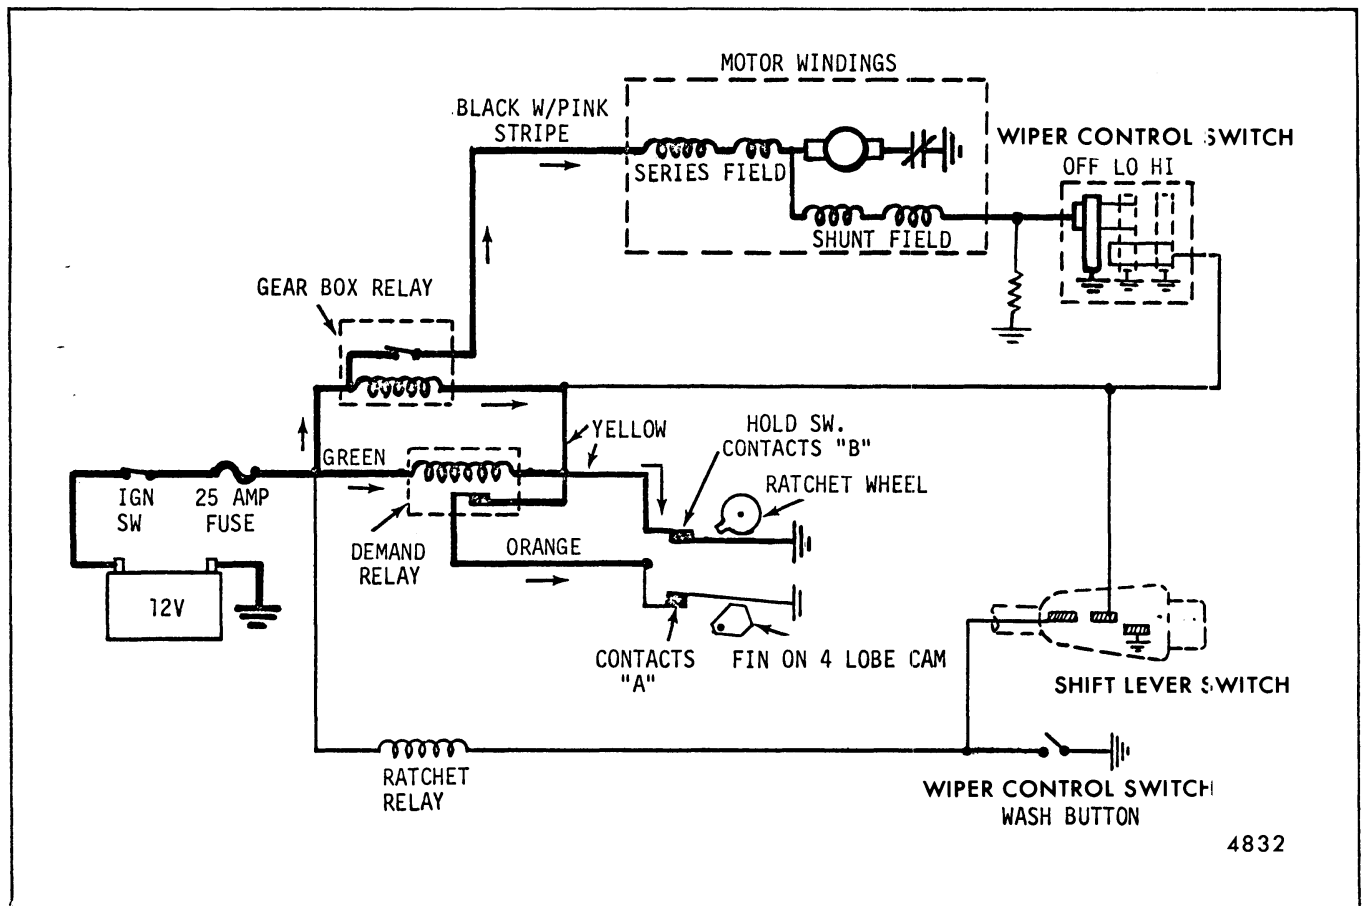
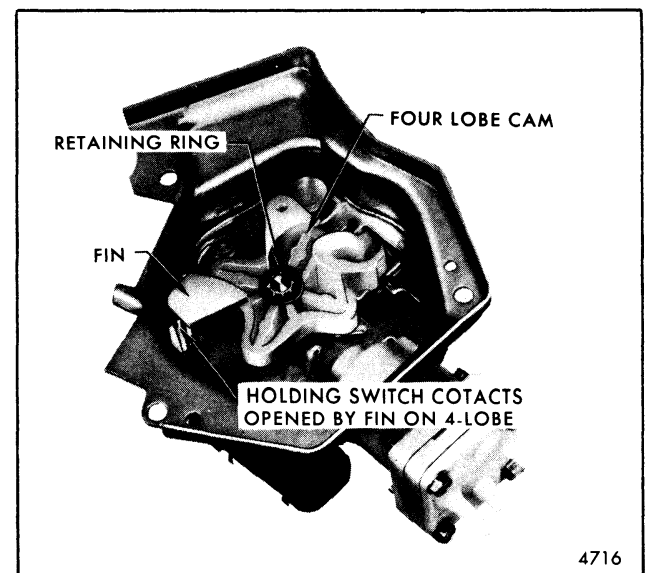

Fig. 2-76-Holding Circuit for Washer
Fig. 2-79-Four Lobe Cam
- When the washer pump is released from its "lock-out" or idling position, the pump ratchet wheel starts to rotate. With the pump in the idling position, a cam on the ratchet wheel keeps holding contacts "B" open (Fig. 2-75). However, when the pump starts and the ratchet wheel is rotated one tooth, holding switch contacts "B" close providing an alternate ground for both the gear box relay coil and the washer pump demand relay coil (Fig. 2-76). The alternate ground circuit through switch contacts "B" is required because contacts "A" are opened once for every revolution of the washer pump 4-lobe cam (Fig. 2-79). Without the alternate circuit, the washer pump demand relay coil circuit would open when contacts "A" open causing the demand relay switch to open which in turn would open the gear box relay coil circuit to ground. This would cause the wiper motor to park the blades and automatically shut off after one wiping stroke.
1. Remove retaining ring and slide 4-lobe cam off shaft (Fig. 2-79).